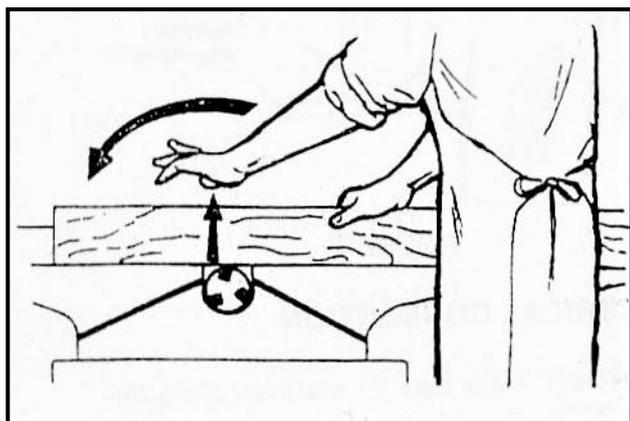

Fig. 2
**HAND SAFETY:** It is good practice to move the hands in an alternate motion from back to front as the work continues through the cut. Never pass the hands directly over the cutter knife. As one hand approaches the knives remove it from the stock in an arc motion and place it back on the stock in a position beyond the cutter knife (Fig. 2).